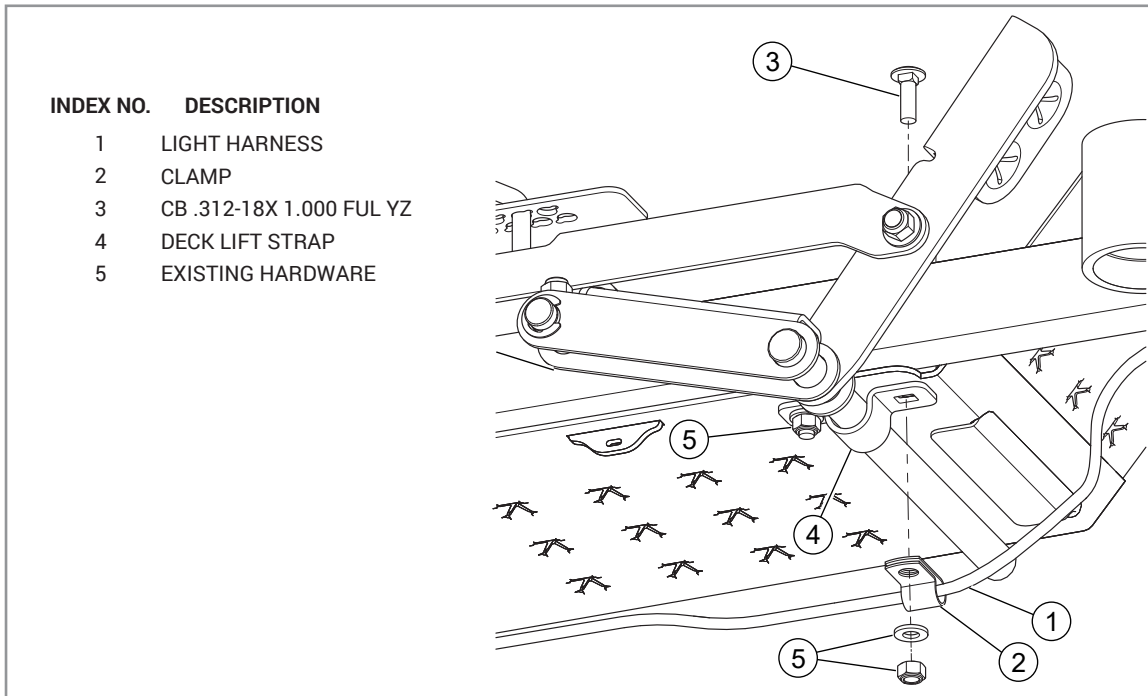

FIG. 3
8. Route the light harness through the clamp and attach the clamp to the deck lift strap with the hardware provided. Repeat for the remaining clamps. Do not tighten the hardware. FIG. 3